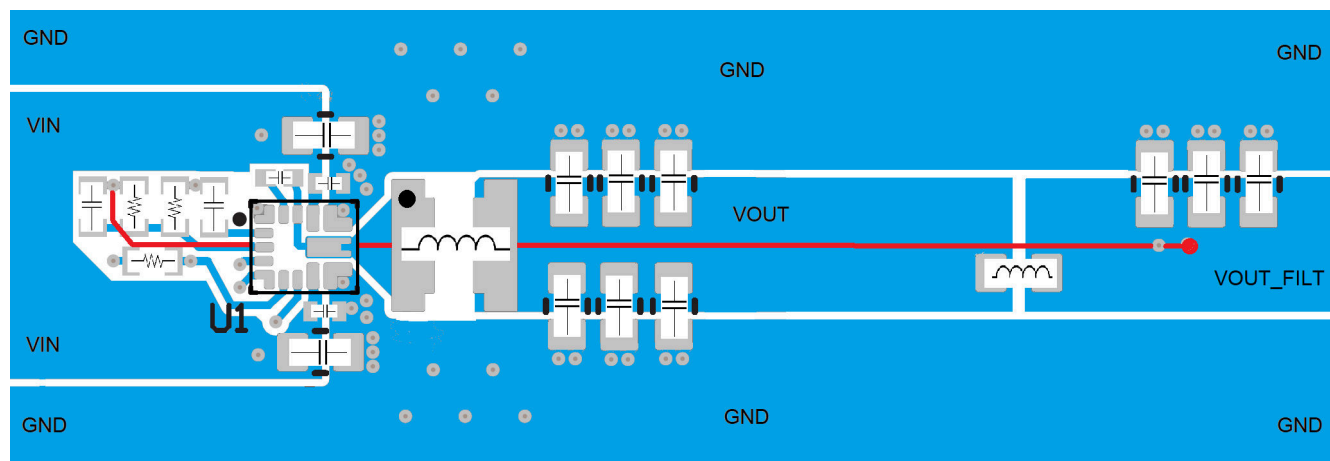

図 7-9. Recommended Layout for Design with Second L-C Filter
- Avoid placing the ferrite bead in the keep out region as shown in Figure 7-9
- See the recommended layout implemented on the EVM and shown in the EVM user's guide, TPS62968 Step-Down Converter Evaluation Module User's Guide, as well as in Figure 7-9.